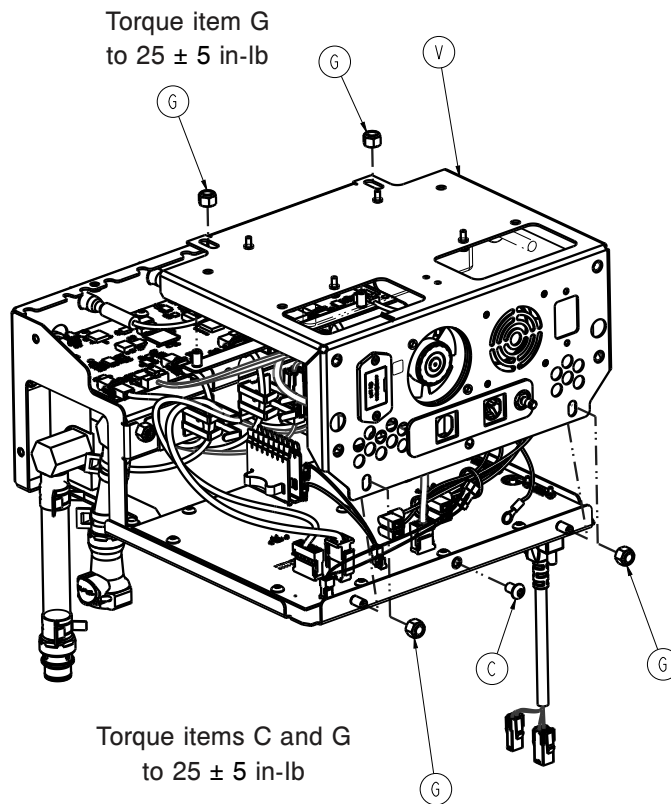

Figure 35 – Locknuts
16. Using a 7/16" socket, remove the two locknuts (G) that secure the manifold assembly to the control assembly (Figure 35). Save the locknuts.